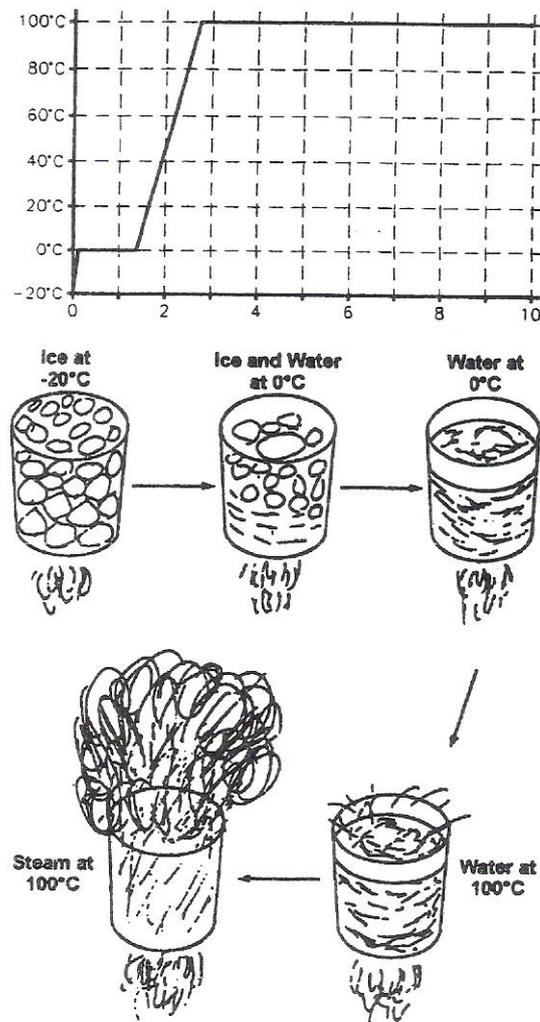

Figure 17 - Change of State
- b) Assuming a kettle takes 1 minute to raise the temperature of a quantity of water from 0°C to 100°C, approximately how much time would be needed for all the water in the kettle to evaporate. (HINT: refer to the graph in Figure 17).